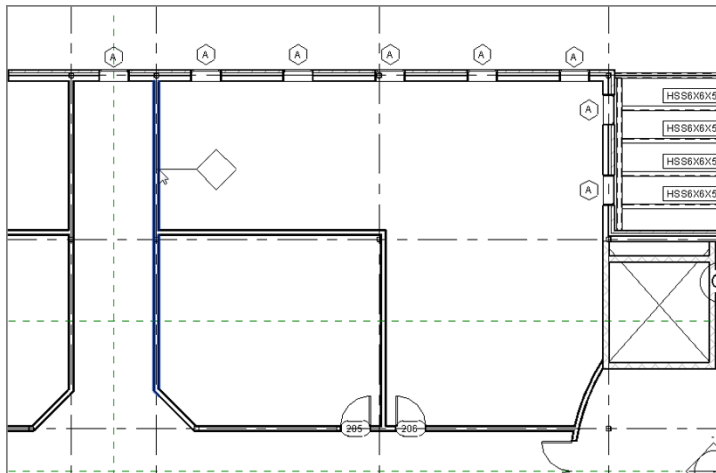

FIGURE 11.63: Picking one of the corridor partitions to tag
5. Pick the wall indicated in Figure 11.63.